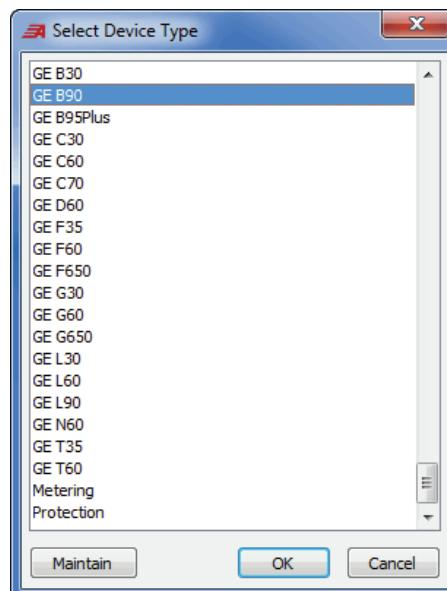

Figure 54 Add GE Device
Step 1. Right-click in the Connection Explorer and select **Add > Device**. As shown in *Figure 54*, select **GE B90**.